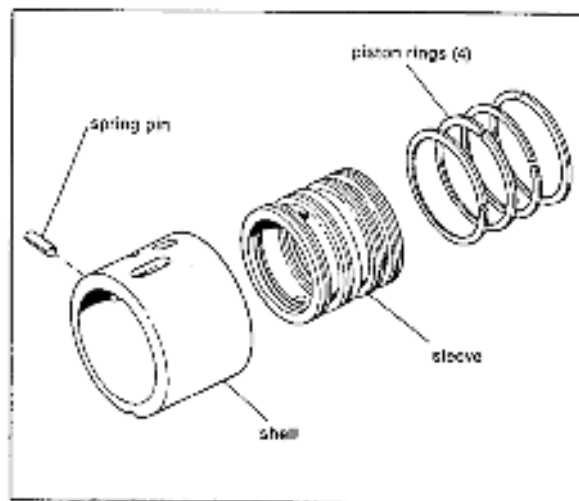

Figure 26. Rear commutator bushing.
c). Rear commutator bushing: check wear on inner shell and check internal piston rings for cracks (see fig.26).